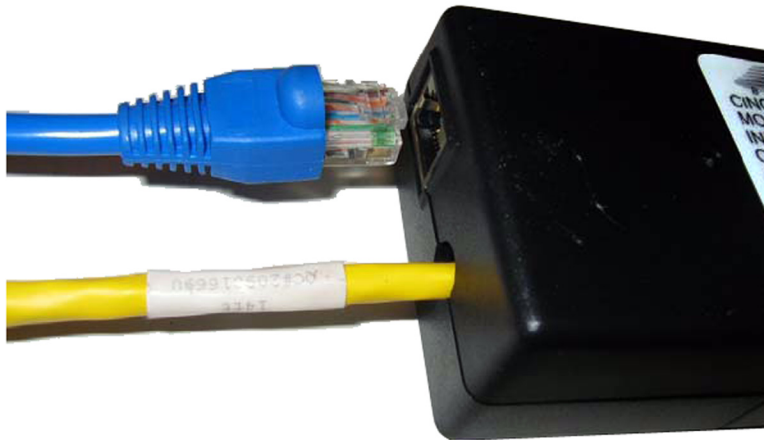

Figure 8-6 Connect customer computer or network device
- 1) Insert one end of an RJ-45 to RJ-45 Ethernet cable assembly to the external RJ-45 jack on the outside of the NIA and the other end to the customer's computer (Figure 8-6).